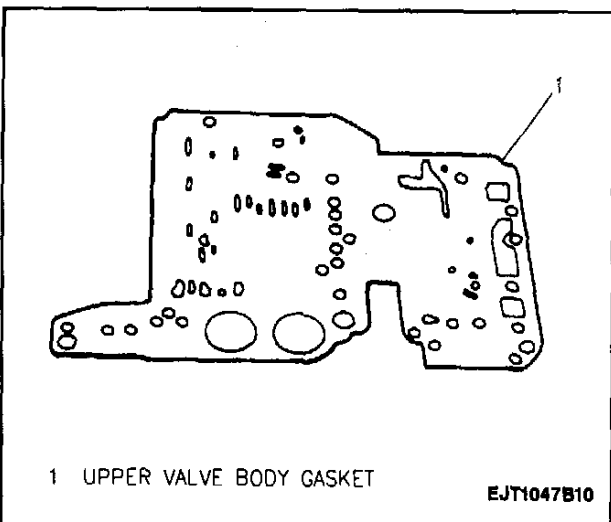

Figure 104—Upper Valve Body Gasket (03-72LE, 4-Speed)
2. New upper valve body gasket to lower valve body assembly (Figure 104).